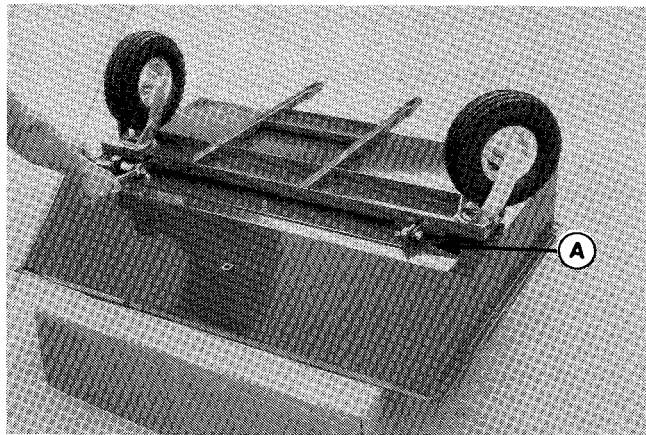

Figure 4.
3. TURN BOX UPSIDE DOWN AND INSTALL THE FRAME TO THE U-BRACKET (figure 4). Align the two prong end (A) in the frame with the ends of the U-bracket and secure with two $1/2 \times 1-1/4$ long hex bolts and $1/2$ locknuts. DO NOT overtighten the locknuts, since the box pivots at this point for dumping.